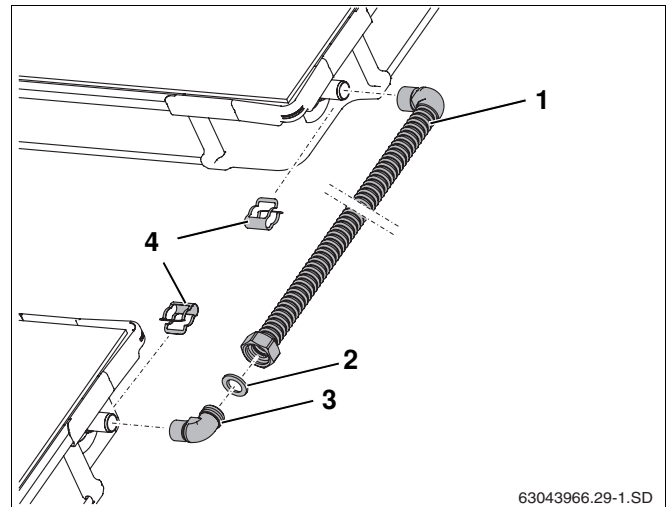

Fig. 60 Connection set between two collector rows
If you need to shorten the connection pipe (Fig. 60, **Item 1**), observe the installation steps described in "Making the sealing face:", page 37.
- Insert gasket (Fig. 60, **Item 2**) into nut.
- Insert bracket (Fig. 60, **Item 3**) into nut, align and screw tight.
- Push connection pipe (Fig. 60, **Item 1**) onto the collector connections and fix in place using brackets (Fig. 60, **Item 4**) from the connection kit.